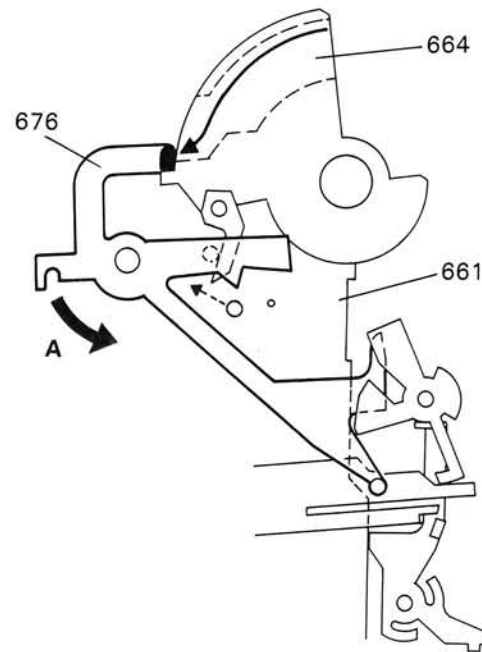

Fig. 9
The auto-in cam (676), after passing inside the tonearm feed cam (664), rotates in the direction of arrow A with the cycle plate (661) almost raised up fully, to the situation shown in Fig. 9, in which situation the play mode is given.